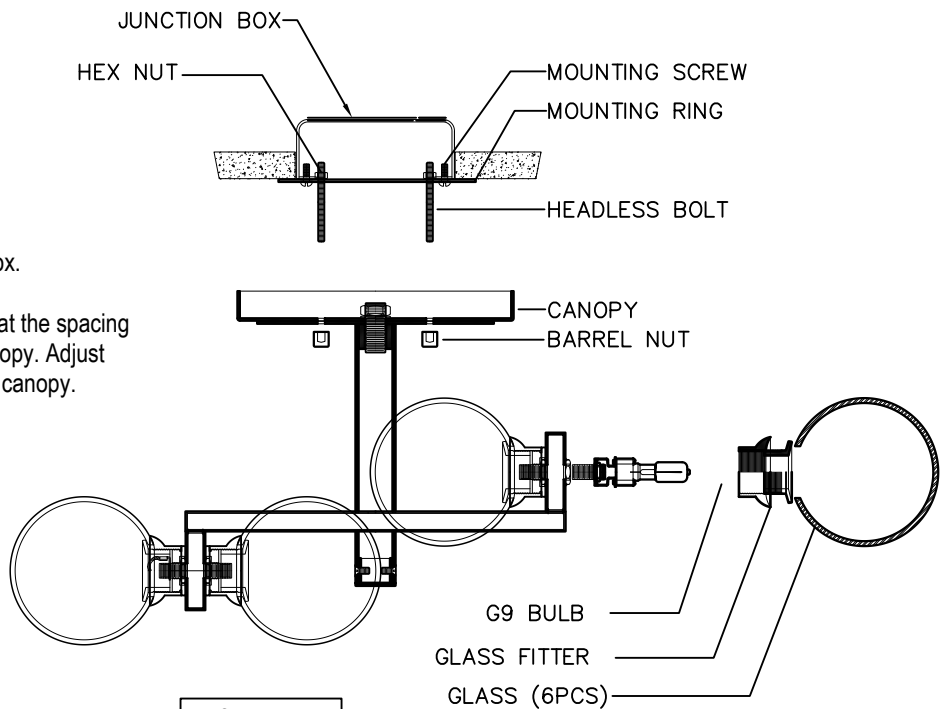

FIGURE-1
6. Place the glass diffuser into the place using glass fitter attached with the glass. (See figure-1)